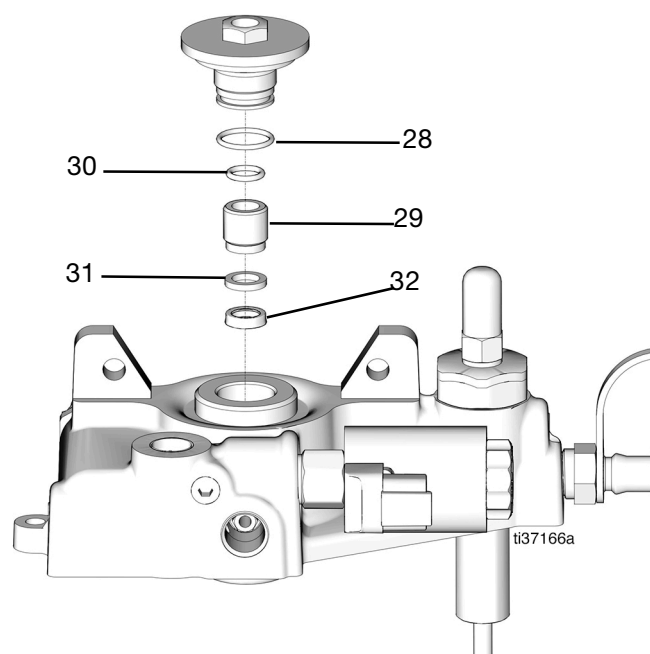

FIG. 48
31. Remove the outer o-ring (28) from the retaining nut (FIG. 48).
32. Remove the throat screw (29) to get to the inner o-ring (30) (FIG. 48).
33. Remove the bronze washer (31) from the pump housing (FIG. 48).
34. Remove the throat seal (32) (u-cup) (FIG. 48).